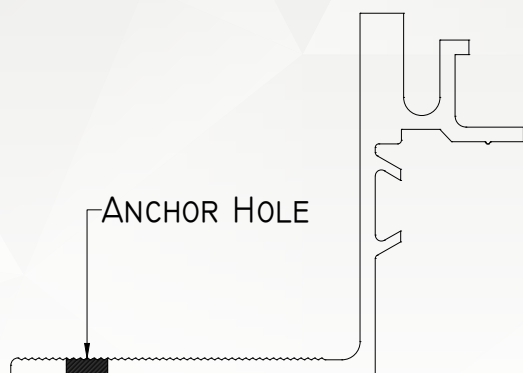

Figure 2.
1. Select a section of the base member. If the anchor holes have not been predrilled in the base members at the factory, mark the locations for the anchor holes on the selected base member. Standard anchor spacing is 30 cm. O.C. with an anchor at a nominal 10 cm from each end of the base member. Repeat marking of anchor locations for each section of the base member. If necessary, drill the holes into the base members at the marked locations (see Figure 2).